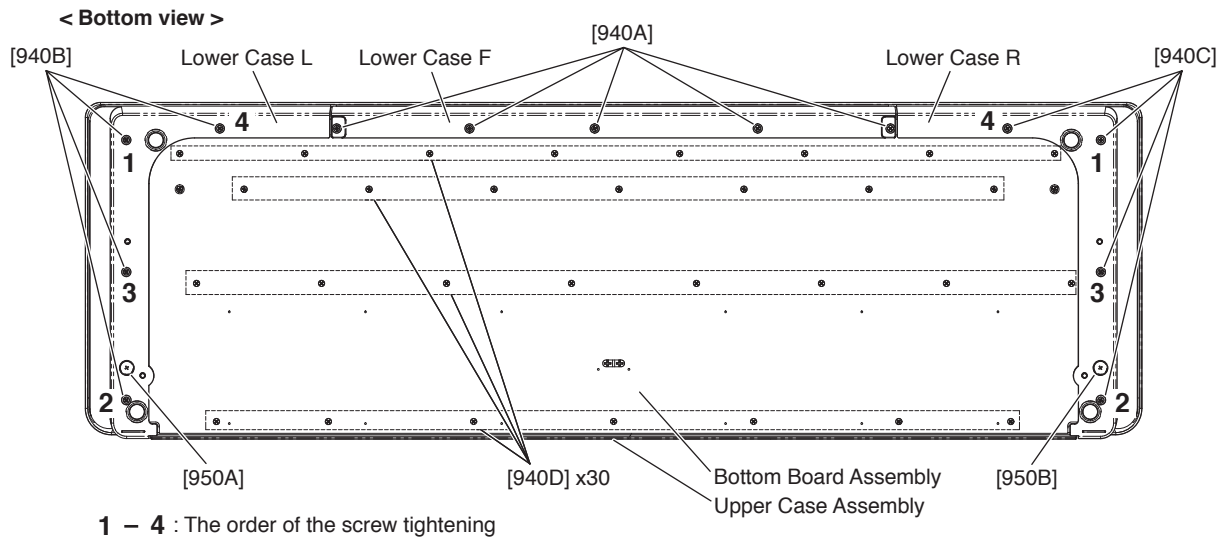

Fig.2
- 1-1 Remove the five (5) screws marked [940A]. The lower case F can then be removed. (Fig.2)
- 1-2 Remove the four (4) screws marked [940B] and the guide screw marked [950A]. The lower case L can then be removed. (Fig.2)
- 1-3 Remove the four (4) screws marked [940C] and the guide screw marked [950B]. The lower case R can then be removed. (Fig.2)
- 1-4 Remove the thirty (30) screws marked [940D]. The bottom board assembly can then be separated from the upper case assembly. (Fig.2)
- * When the lower case L is assembled, tighten the screws marked [940B] in the order of 1, 2, 3 and 4. (Fig.2)
- * When the lower case R is assembled, tighten the screws marked [940C] in the order of 1, 2, 3 and 4. (Fig.2)